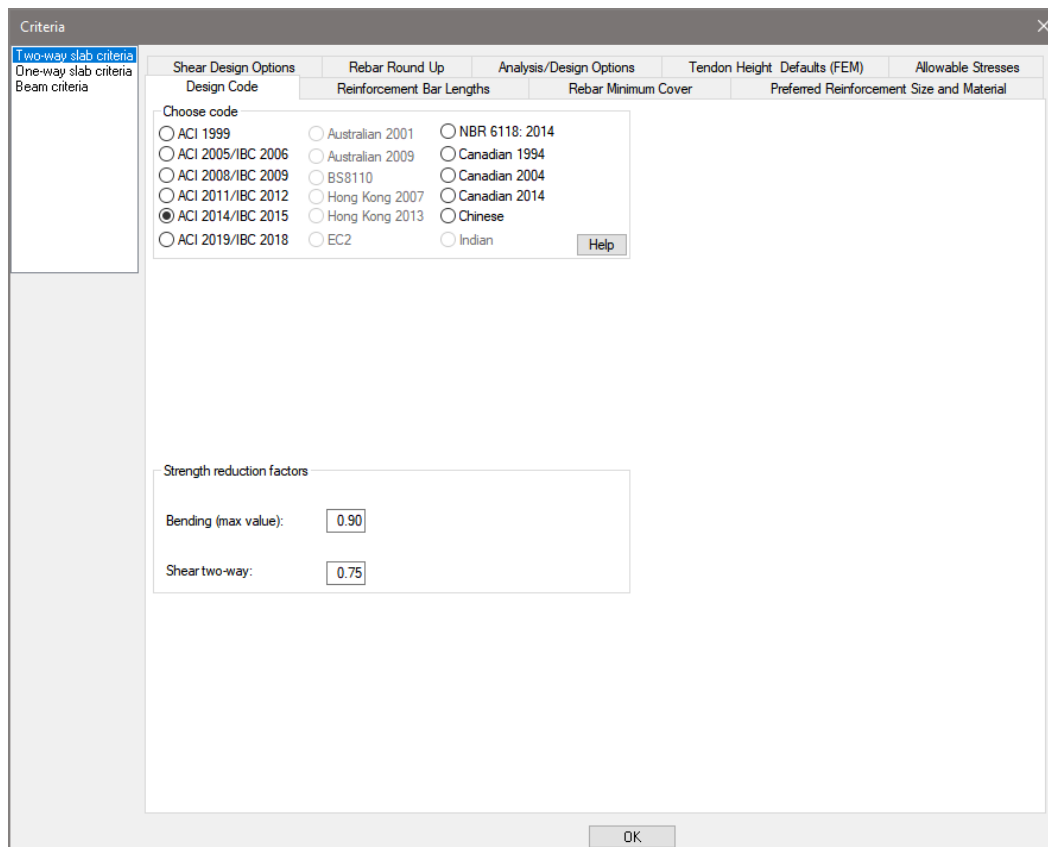

Figure 2-12
- Go to *Criteria* → *Design Criteria* and click on the *Design Code*  icon. This will open the *Criteria* window from **FIGURE 2-12**.